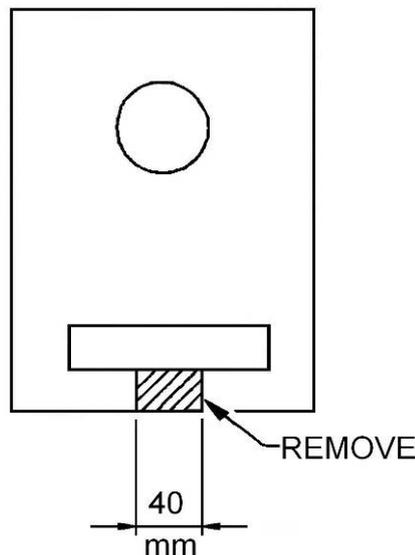

Figure 95 Foam Sound Deadener
- l. Cut the foam sound deadener (Figure 95) and position it on top of the gearbox.